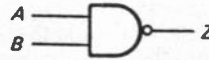

Fig. 3
7. Figure 3 shows a two input NAND gate.